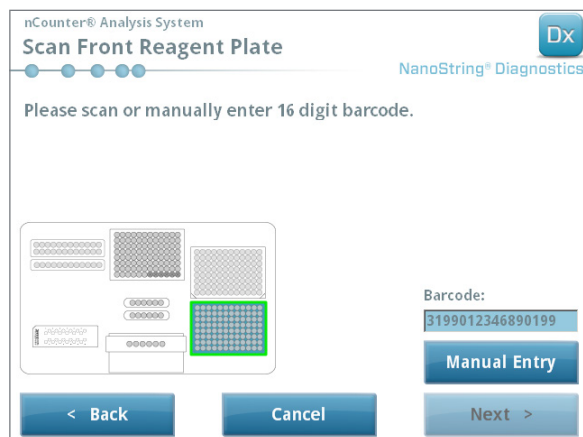

FIGURE 5.10: The 'Scan Reagent Plate' screen
- b. Remove the clear plastic lids and place the reagent plates on the deck as indicated on the screen (**FIGURE 5.10**).